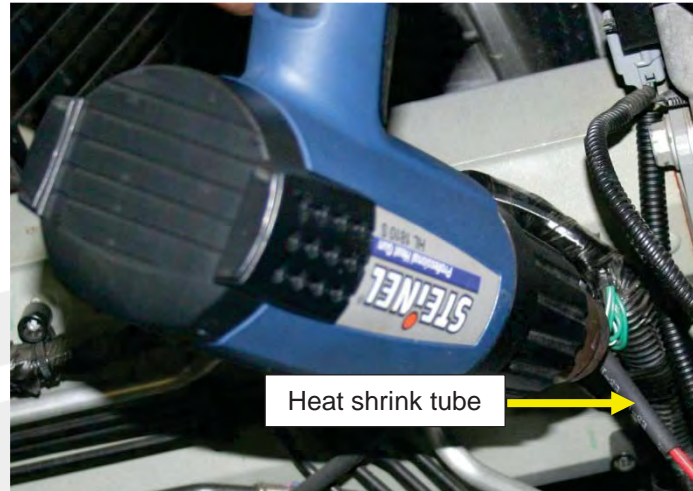

Figure 12
17. Use a heat gun to heat the shrink tube (Figure 12). The shrink tube contracts as heat is applied.